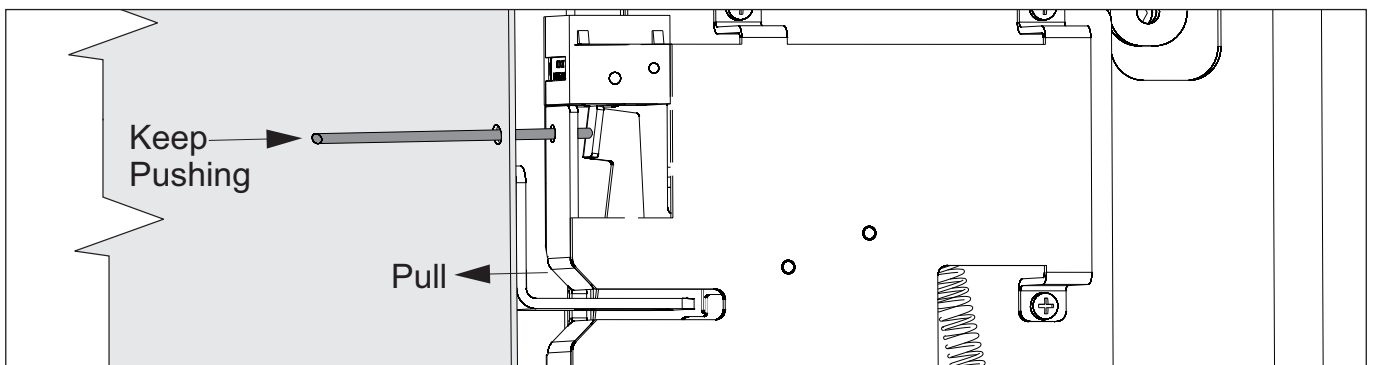

Fig. 9C
b) Open the door for half an inch keeping the pin pressed; then remove the pin and complete the door opening. The circuit-breaker remains close and the interlock is defeated (see fig.9C).